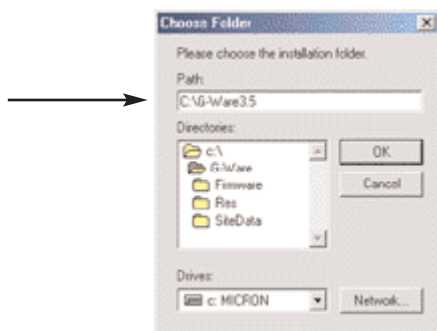

Figure 5.16. Creating a directory for G-Ware 3.5
1. Load G-Ware 3.5 in a unique directory (path), as shown in Figure 5.16. Do not select "Add Icon to Desktop" when you are asked if you want to do so during the installation process.